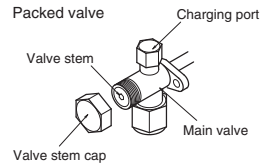

Fig. 7-8
- If the packed valve is left for a long time with the valve stem cap removed, refrigerant will leak from the valve. Therefore, do not leave the valve stem cap removed. (Fig. 7-8)